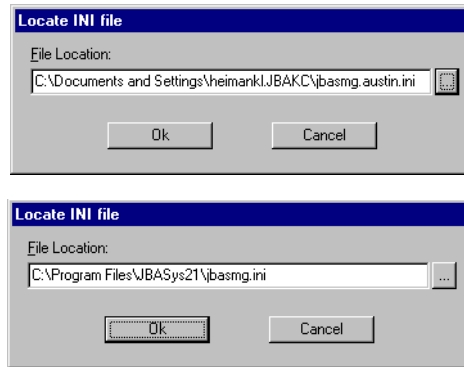

Figure 72. Selecting a custom initialization file
1. Start System 21 Explorer from the Windows Start menu. Because the default initialization file (jbasmsg.ini) does not exist in the installation directory, you are asked to locate the initialization file as shown in Figure 72.